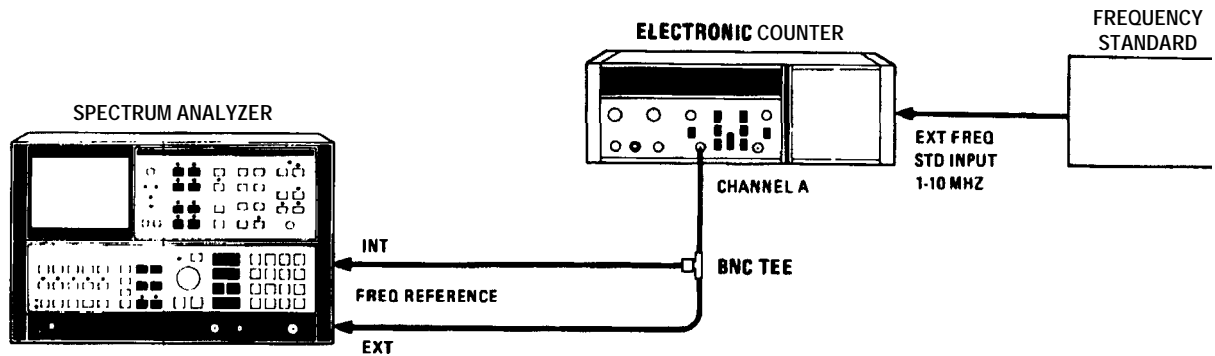

Figure 2-37. Frequency Reference Test Setup
3. Connect equipment as shown in Figure 2-37.